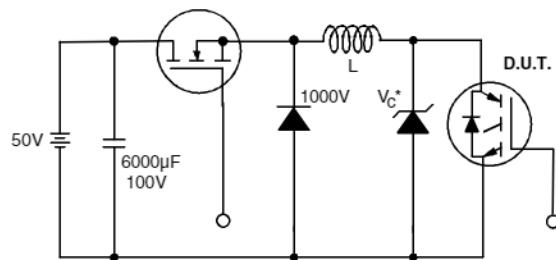

Figure 19. Clamped Inductive Load Test Circuit
② $V_{\text{CC}}=80\%(V_{\text{CES}})$, $V_{\text{GE}}=15\text{V}$, $R_G = 5.0\Omega$. (See figure 19)
③ Pulse width $\leq 80\mu\text{s}$; duty factor $\leq 0.1\%$.